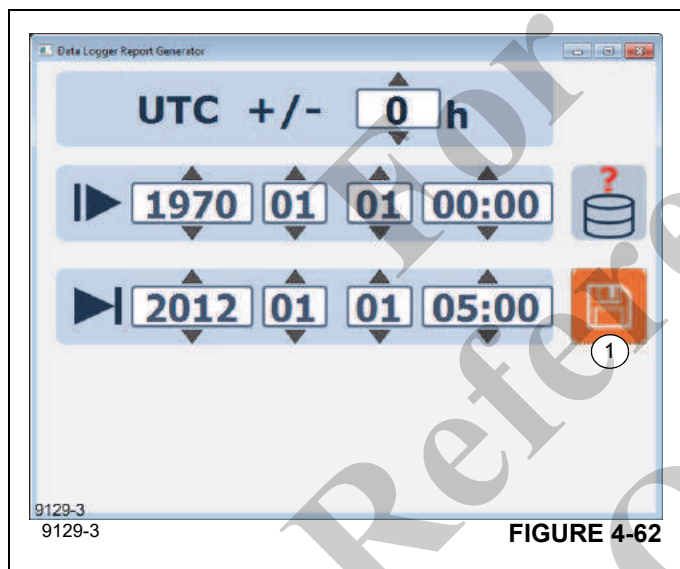

FIGURE 4-62
- Choose the time span for the report (Figure 4-62), the default is the maximum amount of time possible. After the report is generated the disk save icon (1) will be highlighted.